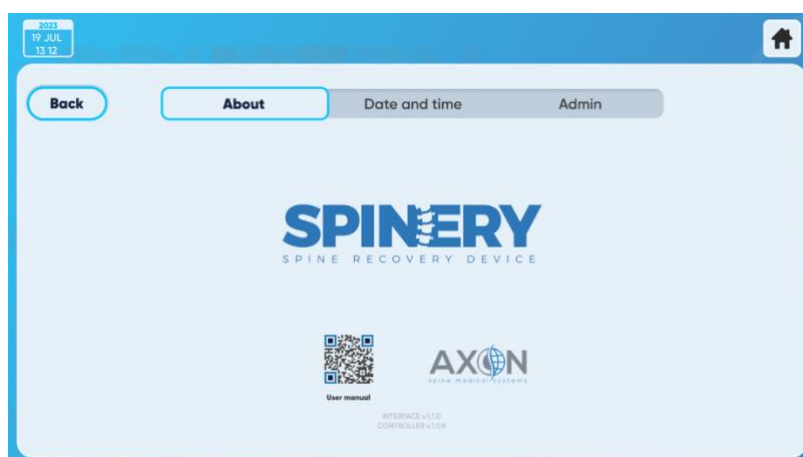

Figure 14 - Setting Screen
1. See the "About" settings page to access the SPINERY® RF Generator's operating instructions via the QR code (Figure 14).